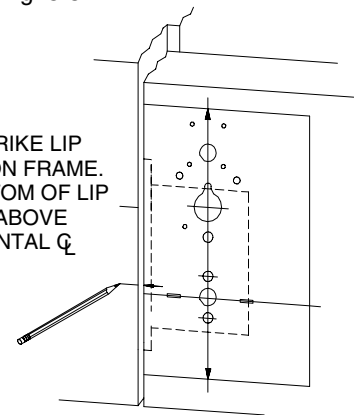

FIG.3-4
- c. Separate the Door Edge Template from the Door Surface Template. Position the correct side of the Door Surface Template on the outside face of the Door, aligning the Locator points with the horizontal and vertical lines drawn on the Door as illustrated in Fig. 3-4.